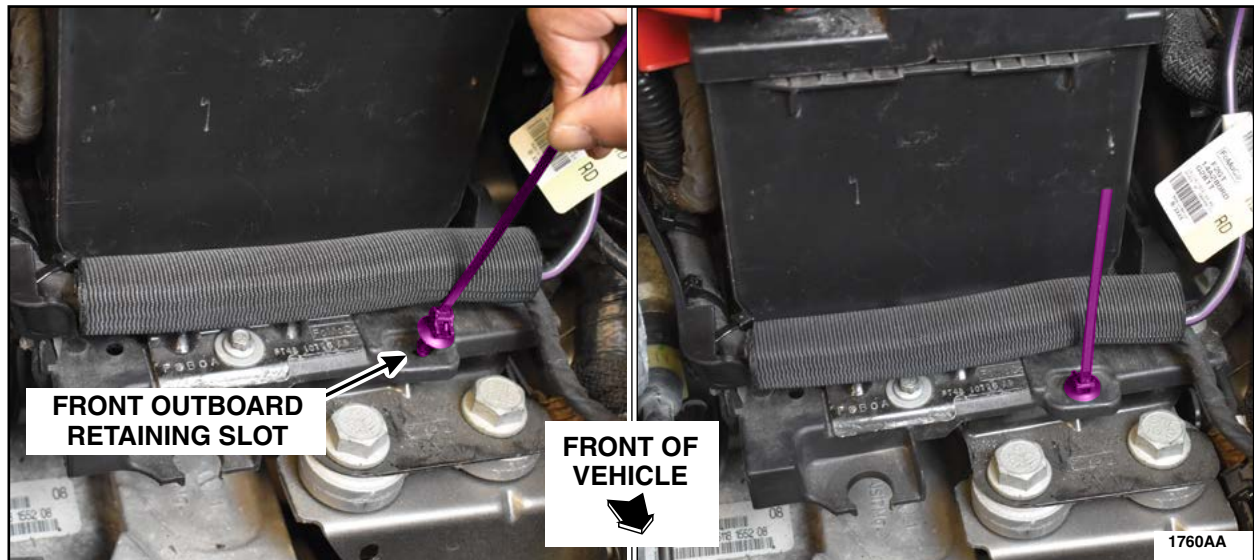

FIGURE 13
14. Using the provided tie strap special retainer, install it in the front outboard hole on the battery tray as shown in Figure 13.